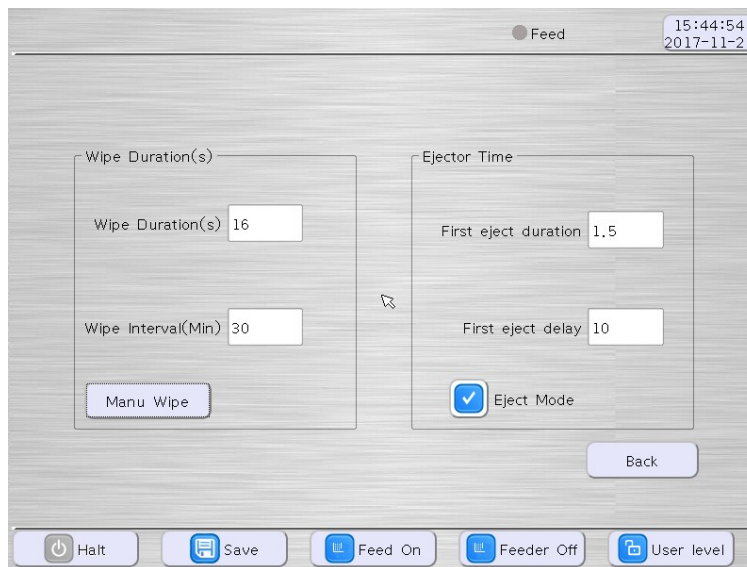

Figure 5-1
- 2) The first eject duration and first eject delay can then be adjusted as shown in Figure 5-1. Once this is done, press “Back” button.